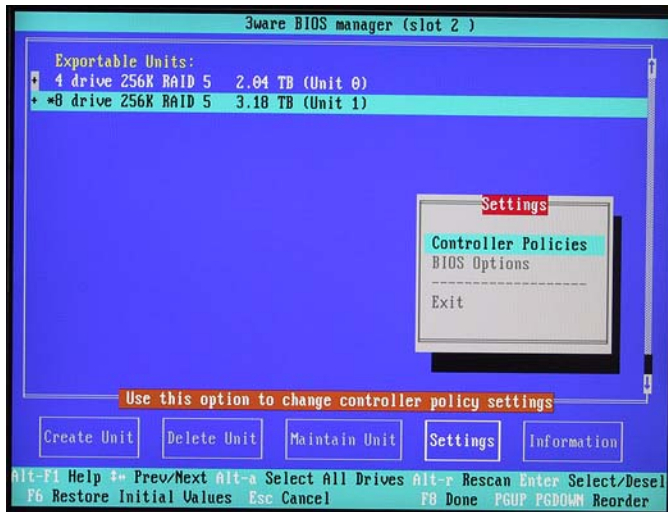

Figure 6-3
- 3) As mentioned earlier, the TeraPac 3 array of eight disks normally exceeds the Windows XP limit of 2 TB. This means that – prior to building the array – we must enable the **Auto-Carving** feature. This feature is listed in the **Controller Policies** section of **Settings** dialog as illustrated in Figure 6-3.